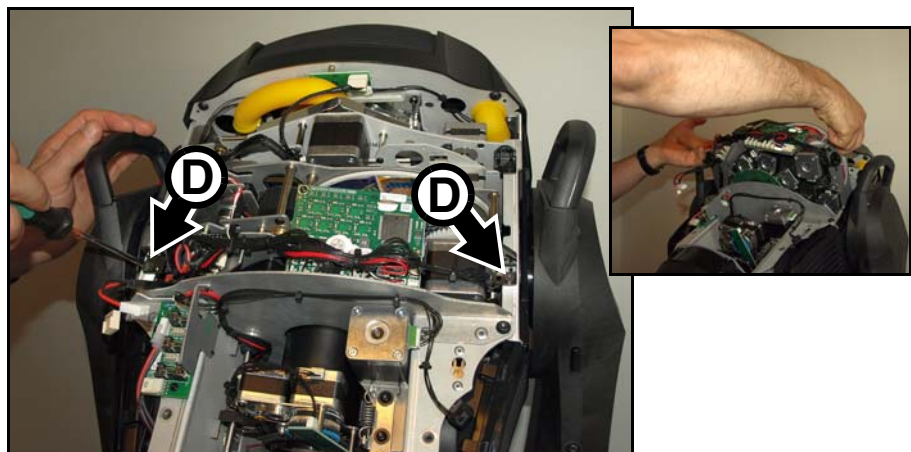

Figure 15: Removing the module
3. See Figure 15. Loosen the two Torx 20 screws **D** to release the framing module, then lift the module out of the head and place it with the motors facing down on a work surface.